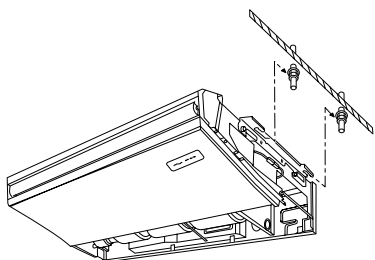

Fig. 3-6
- ① Suspending bracket
- ② Unit
1) Directly suspending the unit (Fig. 3-6)